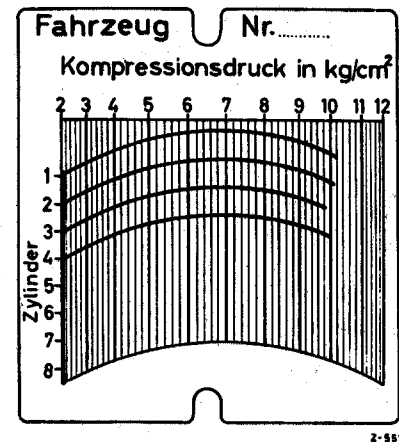

Fig. 01—3/3
5. Measure all 4 cylinders. The recorder card must be moved to a new position for each cylinder in turn (see operating instructions). Make sure that the duration of turning the engine remains approximately the same for the measurements on all 4 cylinders (Fig. 01—3/3).